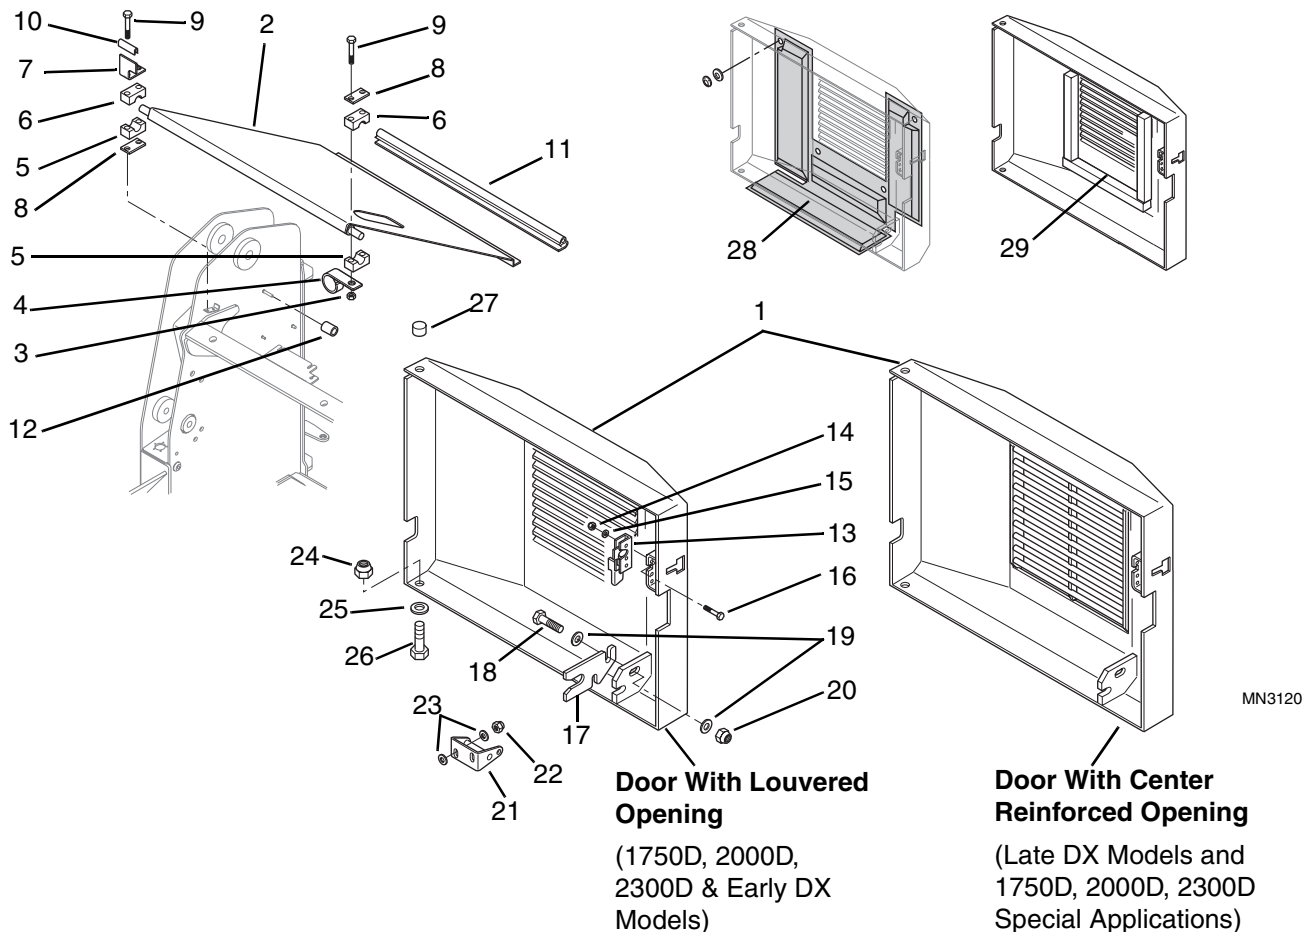

Figure 9-109 Rear Door and Engine Cover
1. Unlock and open the rear door (Fig. 9-109, 1), and raise the engine cover (2).
2. If necessary to remove the engine cover (Fig. 9-109, 2), remove the hex elastic locknuts (3), J-clamp (4) on left side and clamp cover plate (8) on right side, lower half clamps (5), upper half clamps (6), stop plate (7) on right side and clamp cover plate (8) on left side, and capscrews (9). Remove the engine cover.
3. To remove the door latch (Fig. 9-109, 13), remove the hex elastic locknuts (14), flat washers (15), and capscrews (16).
4. To remove the door stop (Fig. 9-109, 17), remove the hex elastic locknuts (20), flat washers (19), and capscrews (18).
5. To remove the door striker (Fig. 9-109, 21), remove the hex elastic locknuts (22), and flat washers (23).
6. If necessary to remove door (Fig. 9-109, 1), use suitable lifting equipment. Position two slings or straps of adequate capacity through each end of the top louver on either door style. Raise the lifting equipment to remove any slack in the slings or straps.
7. Remove the hex elastic locknut (Fig. 9-109, 24), flat washer (25), capscrew (26), and plastic cap (27).
8. Lift the door (Fig. 9-109, 1) up and off of the upper pivot pin (part of vehicle frame).
2. Inspect the moulding (Fig. 9-109, 10), seal bulb (11), rubber hose bumper (12), sound panels (28) or door gaskets (29) where applicable, for wear. Replace if necessary.
Note: If the door is to be replaced, removal of the door gasket strips (Fig. 9-109, 29) or sound panels (28) without damage, is unlikely. Therefore, it will be necessary to install new door gasket strips or sound panels on the replacement door if either were originally used.
3. To replace the door stop (Fig. 9-109, 17), install capscrews (18), flat washers (19), and stop (17) on the door mount. Add other flat washers (19) and new hex elastic locknuts (20) to secure door stop in place.
4. Adjust the door stop (Fig. 9-109, 17) as required for smooth door operation and tighten securely.
5. To replace the door latch (Fig. 9-109, 13), install the capscrews (16), latch (13), flat washers (15), and new hex elastic locknuts (14). **DO NOT** tighten.
6. To replace the door striker (Fig. 9-109, 21), install flat washers (23), striker (21), flat washers (23), and new hex elastic locknuts (22). **DO NOT** tighten.
7. Adjust the door latch (Fig. 9-109, 13) and striker (21) as required for smooth latch operation and tighten securely.
8. If the engine cover (Fig. 9-109, 2) was removed, replace by installing the capscrews (9), clamp cover plate (8) on left side and stop plate (7) on right side, upper half clamps (6), the cover (2), lower half clamps (5), J-clamp (4) on left side and clamp cover plate (8) on right side, and new elastic locknuts (3).
Note: Check the holding tension of the half clamps by lifting the cover (Fig. 9-109, 2) up to a vertical position. The clamps should be tight enough to hold the cover in this position. The clamps should **NOT** be tight to the point that the cover requires excessive force to move. Adjust as required for proper operation.
9. Lower the engine cover (Fig. 9-109, 2). Close and lock the rear door (1).